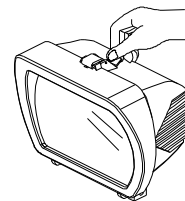

FIGURE 16
4) Refit the front surround and secure with the front cover clip (FIGURE 16).